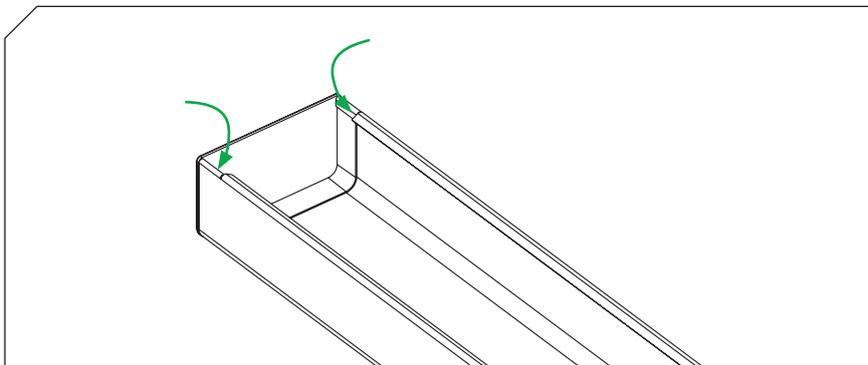

Figure 17
- 6.7 Bend the notched drips on the sides of the end cap walls **(Figure 17)**